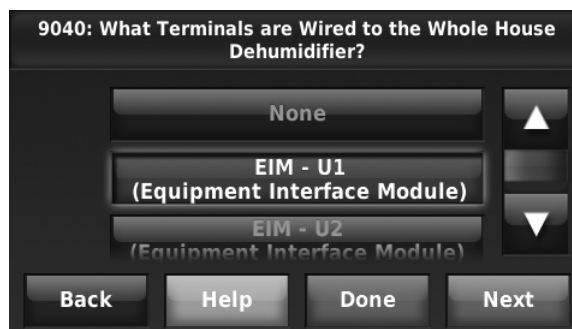

Fig. 121.
4. Select the terminals wired to the Whole House Dehumidifier. See Fig. 121.